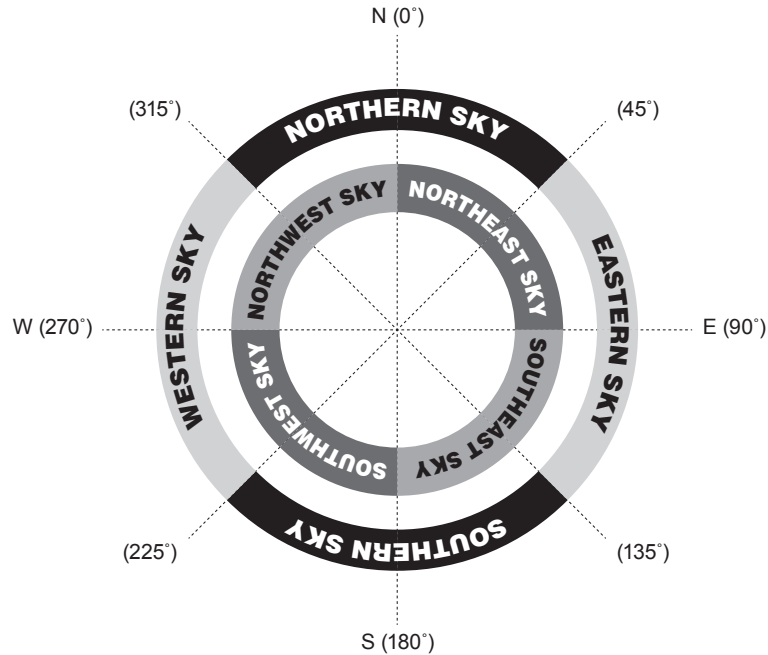

Fig. 3.4a
2. The hand control displays **"Select Region"**. Use the scroll keys to pick one of the eight regions shown in Fig 3.4a, which matches the horizontal region of the brightest stars. Press **ENTER** to confirm the selection and proceed to the next step.